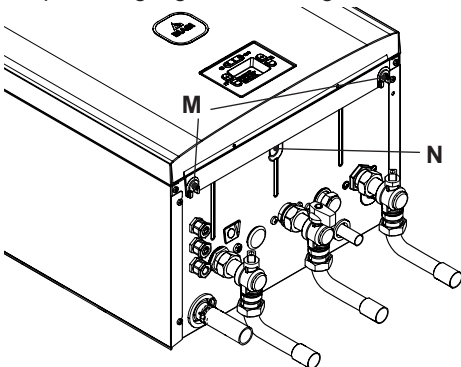
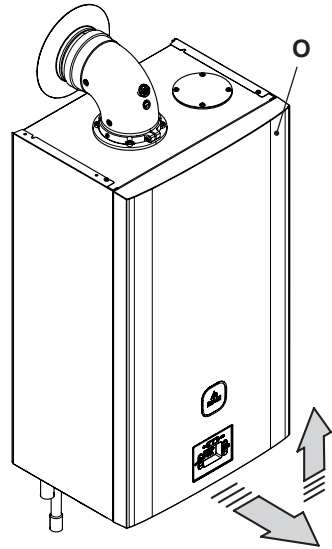
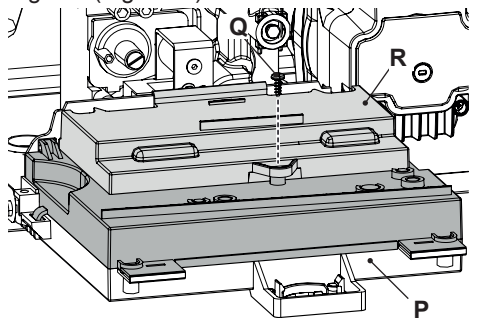

Fig. 6.14
Fig. 6.15
Fig. 6.16
- Unscrew screws "M" and remove the front panel "O" by pulling it and pushing it towards the top so that it is freed from the top housing Fig. 6.14 and Fig. 6.15.
- Unscrew the screw "N" (Fig. 6.14) and turn the control panel "P", as shown in Fig. 6.16.
- Unscrew the screw "Q" and lift the cover "R" to release the cables from the cable gland (Fig. 6.16).